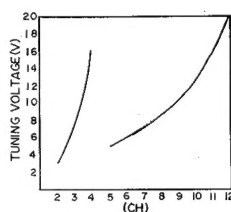

Figure 3
3. The figures 3 and 4 represent tuning voltages of VHF tuner and UHF tuner, respectively.